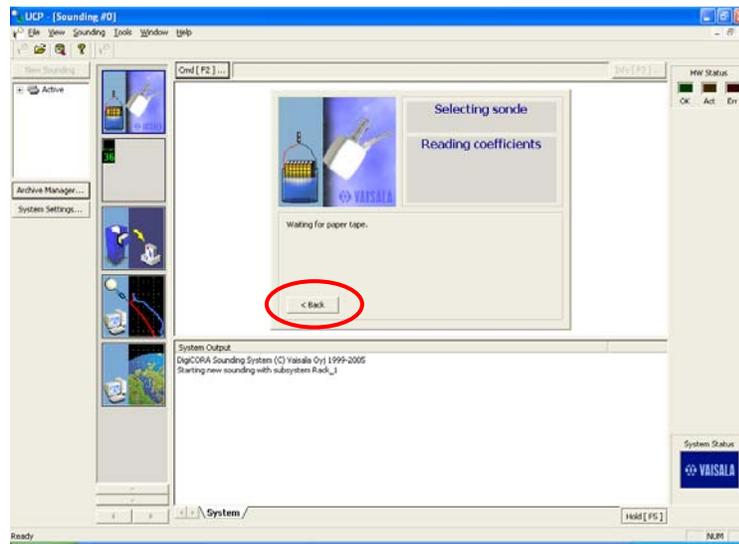

Figure 4
24. Click on "New Sounding" in the upper left portion of the DigiCORA III window to allow the system go through its start-up checks. It will take a few minutes to reach 100 %. See Figure 4 for the screen shot. (If "New Sounding" is not available, open the "Active" file and close the last sounding file.)
25. If "Cable" selection option is not on screen, press "Back" (see Figure 4) to select media, otherwise go to next step.